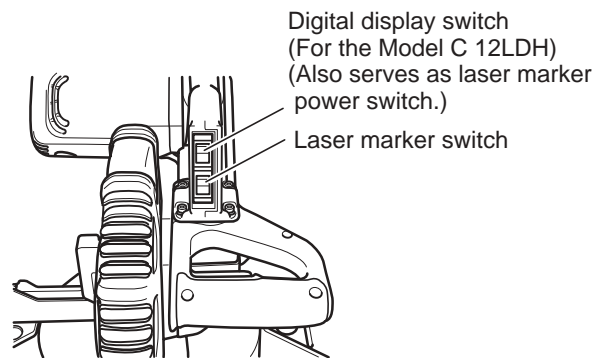

Fig. 36-a
- (1) Move the turn table left and right with the side handle loosened, and set the turn table to the correct position.
- (2) If the figures on the display and positive stop still do not match, then return the turn table to the 0° position. Next move the turn table left and right with the side handle loosened as shown in Fig. 36-b. After setting it to the correct position 0° , press the reset button again.
Move the turn table left and right with the side handle loosened and set it to the correct position. **Fig. 36-b**